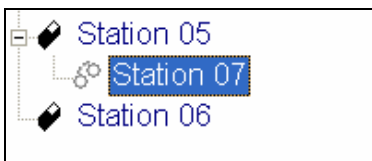

Figure 16.4.43B
- Release the left mouse button while the cursor on the screen is directly over the station that you want to assign the slave to (Figure 16.4.43B).